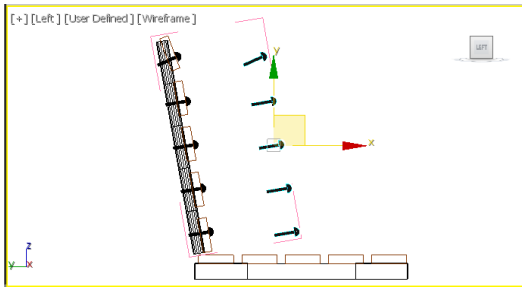

Figure 2-92 The right side seat rivets group in the Left viewport
5. Make sure *right side rivets* group is still selected. Now, create a copy of *right side rivets* and name it as *right side seat rivets*, as shown in Figure 2-92.